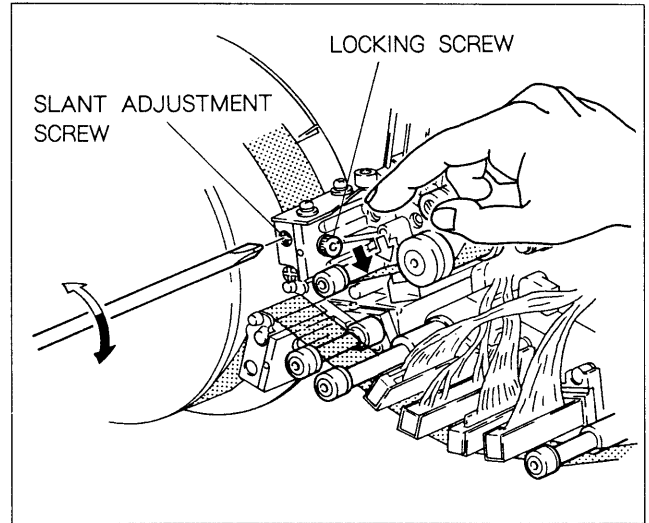

Fig. 9-5-6. Entrance Slant Guide Slantness Adjustment
- (1) Loosen the entrance slant guide locking screw (opposite side: 2.5 mm) shown in Fig. 9-5-6.